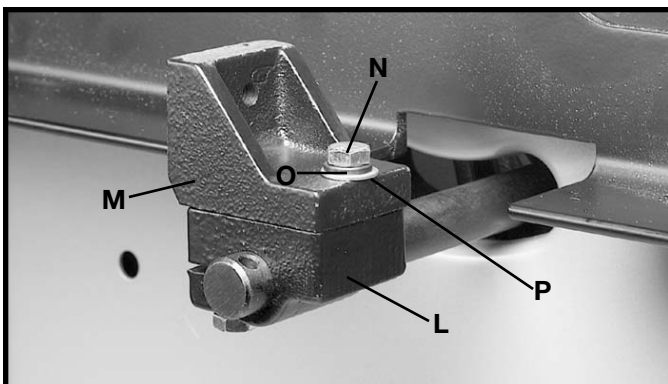

Fig. 20
8. Assemble splitter bracket (M) Fig. 20, to lower bracket (L), using one flat washer (P), lockwasher (O), and one inch-long hex head screw (N). Do not fully tighten screw (N) at this time.